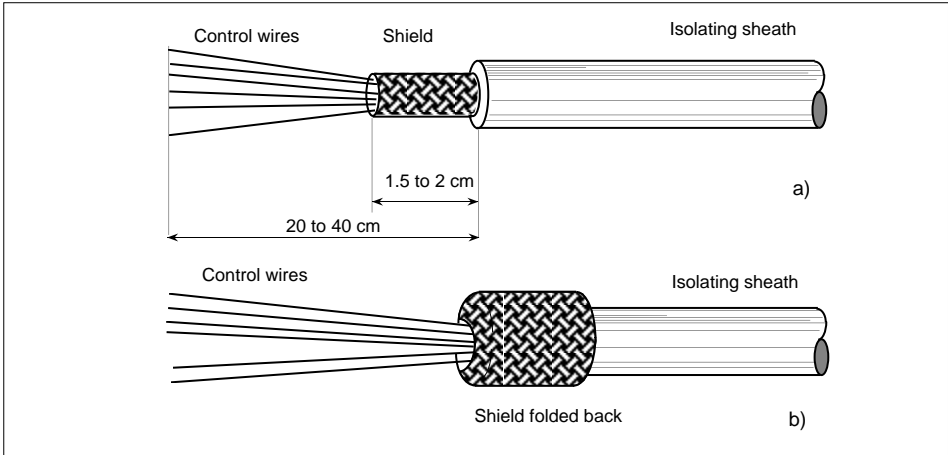

Figure 3-5 Control cable stripping
- **Strip** the shielded cable as shown in figure 3-5,a.